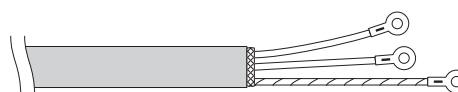

Fig. 2-11
- (4) Connect signal wire removed coat and shield wire with pressure terminal. (Fig. 2-11)